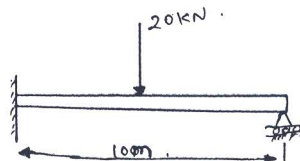

Fig. Q7(b)
b. A uniform C-S beam is fixed at one end and supported by a roller at the other end. A concentrated load 20 kN is applied at the mid length of beam as shown in Fig. Q7(b). Determine the deflection under load. (14 Marks)